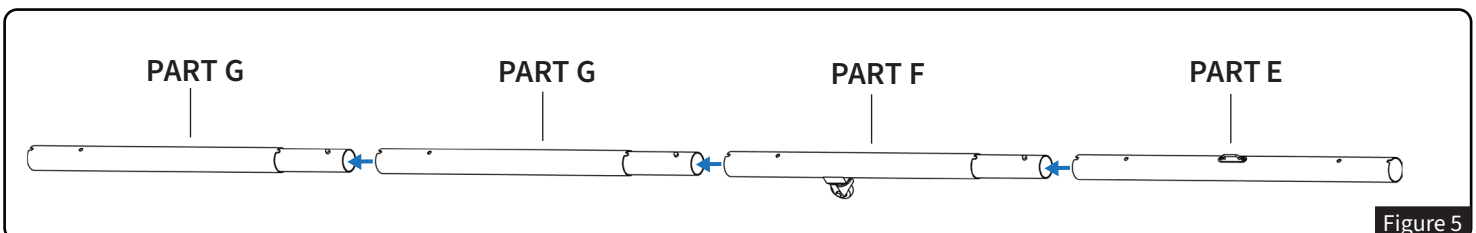

Figure 5
- Assemble the first section of the center frame in the order shown in *Figure 5* using: